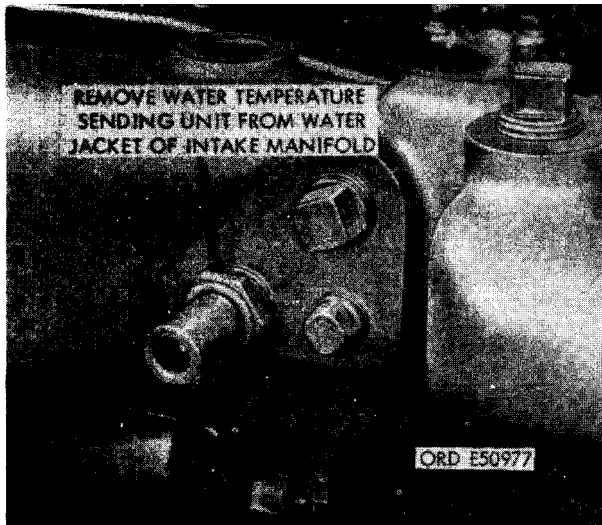

FIGURE 108. REMOVING OR INSTALLING WATER TEMPERATURE SENDING UNIT.
a. Removal. Refer to figure 108 and remove water temperature sending unit.
b. Installation. Refer to figure 108 to install the-water temperature sending unit.